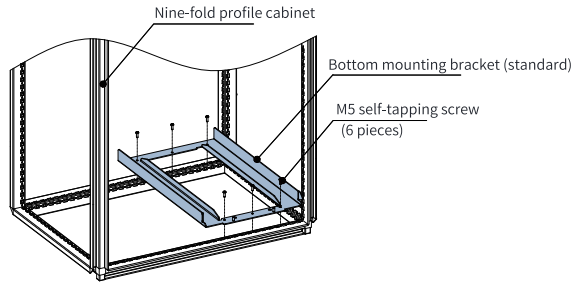

Figure 5-7 Installing the bottom mounting bracket
2. Fix the bottom mounting bracket in the nine-fold profile cabinet. Use six M5 self-tapping screws to fix the mounting bracket onto the rack base of the nine-fold profile cabinet, as shown in "Figure 5-7" on page 83.